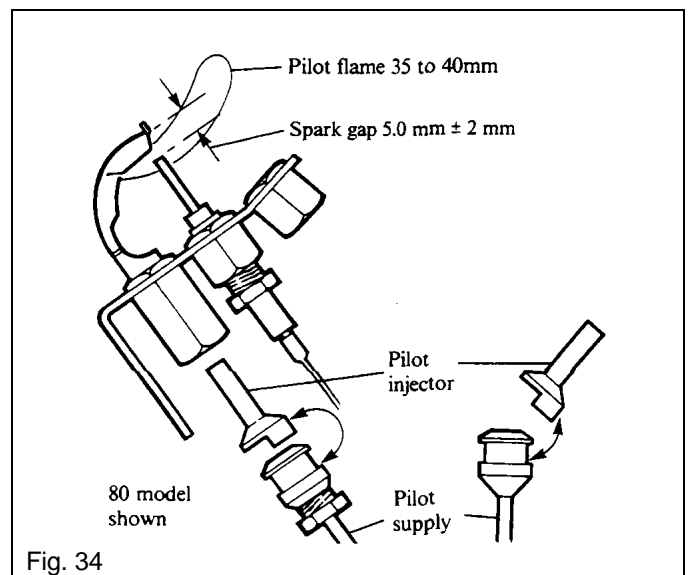

Fig. 34
11. Undo the securing nut and remove the spark electrode, see Fig. 34, from the pilot assembly.
Carefully remove and retain the pilot injector, see Fig. 34.
2. Locate the pilot injector over the end of the pilot supply, as shown in Fig. 34 and carefully position it in the pilot burner. Secure the pilot supply to the pilot assembly and gas valve.
3. Replace the spark electrode and check that the spark gap is $5.0 \text{ mm} \pm 2\text{mm}$, see Fig. 34.
Refer to Fig. 34.
3. Undo the securing nut and remove the electrode, see Fig. 34, from the pilot assembly.